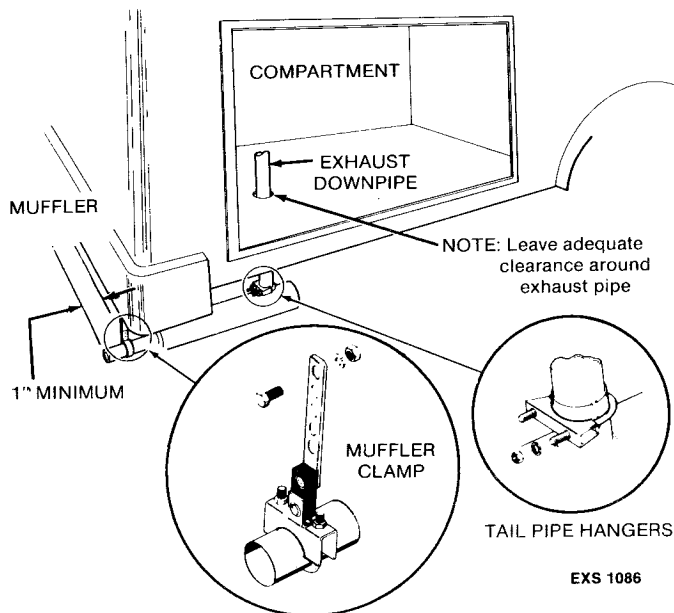

FIGURE 4. MUFFLER INSTALLATION
3. Attach the inlet of the muffler to the downpipe using a 1-5/8 inch automotive type U-bolt clamp ONLY (see Figure 4) and tighten securely. If downpipe must be shortened, cut two 1/2 inch slots in the end of the downpipe after shortening.
5. Attach the tailpipe to the outlet end of the muffler and provide support using a shock mounted support hanger with clamp (see Figure 4).